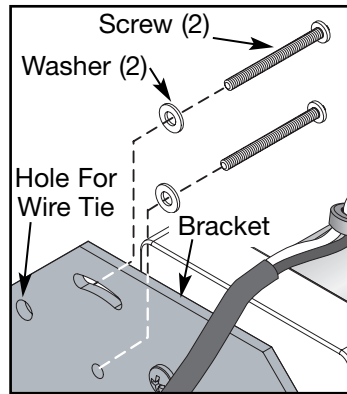

Figure 5
- A. Place the two screws through the two washers and bracket holes. See Figure 5. **NOTE:** Do not use the hole for the wire tie.